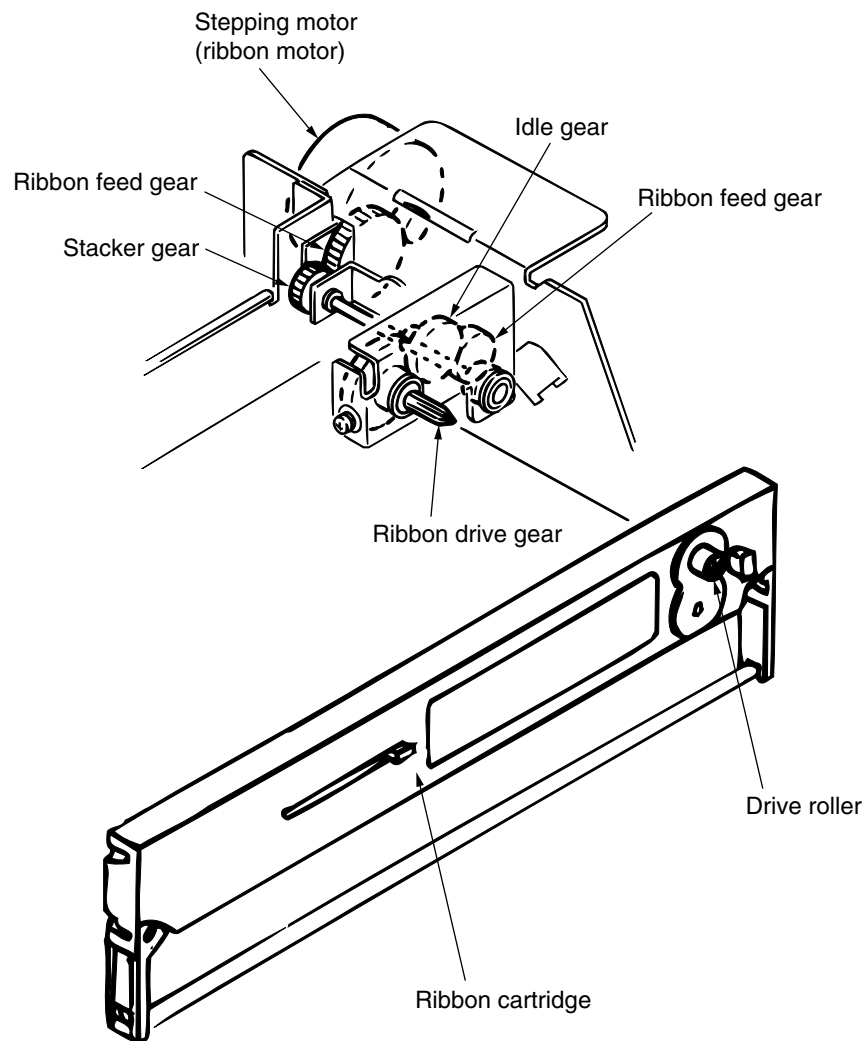

Figure 12-5. Ribbon-Feed Mechanism
12.3.3 Ribbon-Feed Mechanism and Its Actions (See Figure 12-5.)